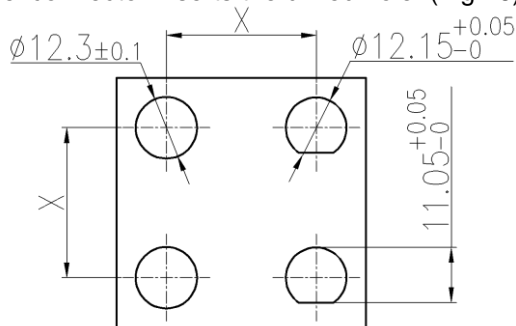

Figure 15
- ✧ 面板钻孔。钻孔的建议尺寸（如图 15），所有钻孔边缘的毛刺需要清除。我们建议，无论水平或垂直结构，间距值（X）至少要有 25mm（如图 15）
Drill holes at the panel wall. The proposed size of the borehole is shown in Figure 15. We recommend that the spacing value (X) is at least 25mm for both horizontal and vertical structures (Figure 15).